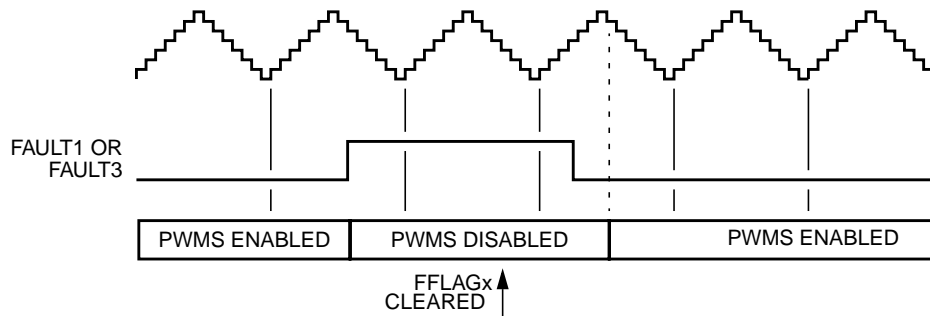

Figure 11-79. Manual Fault Clearing (Faults 1 & 3)
- The filter detects a logic zero on the fault pin at the start of the next PWM half cycle boundary. See Figure 11-79.